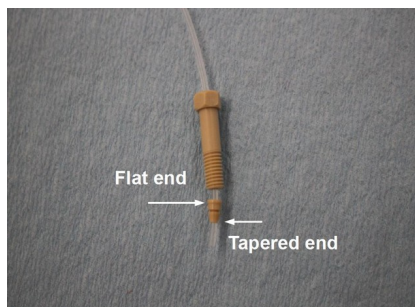

Figure 5: Orientation of the Tan Ferrule.
- The *Tan Ferrule* slides onto the tubing with the tapered end toward the end of the tubing and the flat end toward the *Nut* (**Figure 5**).